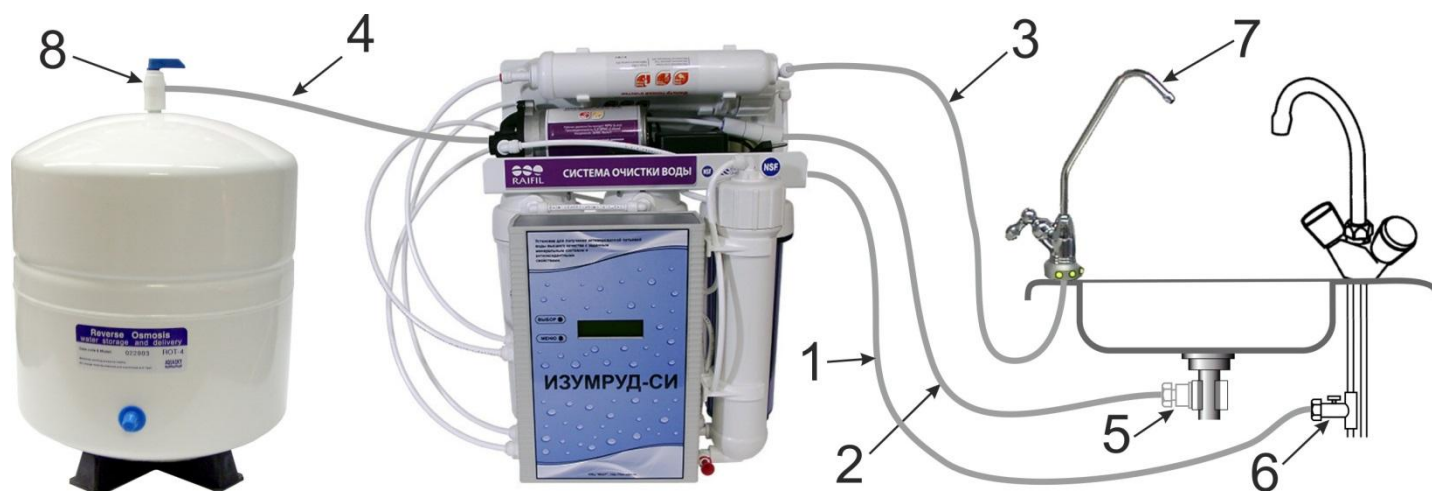

Fig.4 Device hydraulic diagram
- 8.1.** Choose the place of installation under the sink (Fig. 4.)
- 8.15. Take supplied plastic tube, measure the distance from the high pressure relay (Fig.3,pos.23) before entering storage tank valve. Add 10-15 cm to size and cut the relevant section of the tube with a sharp knife (Fig.4, pos.4).
- 8.17. Measure distance from clean water tap inlet (Fig.4, pos.7) to device outlet fitting (Fig.3, pos.7), measure the distance from the device inlet (Fig.3, pos.10) to inlet tap (Fig.4, pos.6) and distance from the drainage outlet (Fig.3,pos.9) to the clamp (Fig.4, pos.5). Increase obtained sizes by 10-15 cm and cut relevant tubes (Fig.4, pos.1, pos.2, pos.3).
- 8.18. Attach the ends of obtained tubes to device fittings, relevant taps and drainage clamp (see Fig. 4).
- 9.2.** Close water tap (Fig.4, pos.6), open clean water tap (Fig.4, pos.7) and close storage tank valve (Fig.4, pos.8).
Perform activities specified in it.9.1 and 9.2. Then close clean water tap (Fig.4, pos.7).
After replacing necessary filters disconnect tube from fitting (Fig.3, pos.22) and direct it into reservoir with a volume of several liters. Open the valve supplying cold water to the mixer tap. Open water tap (fig.4, pos.6). Connect ROS power cable to electrical network. After 2 minutes (filters flushing period) disconnect ROS power cable from electrical network and then close water tap. Connect tube to the fitting (fig.3, pos.22). Perform works specified in article 9.